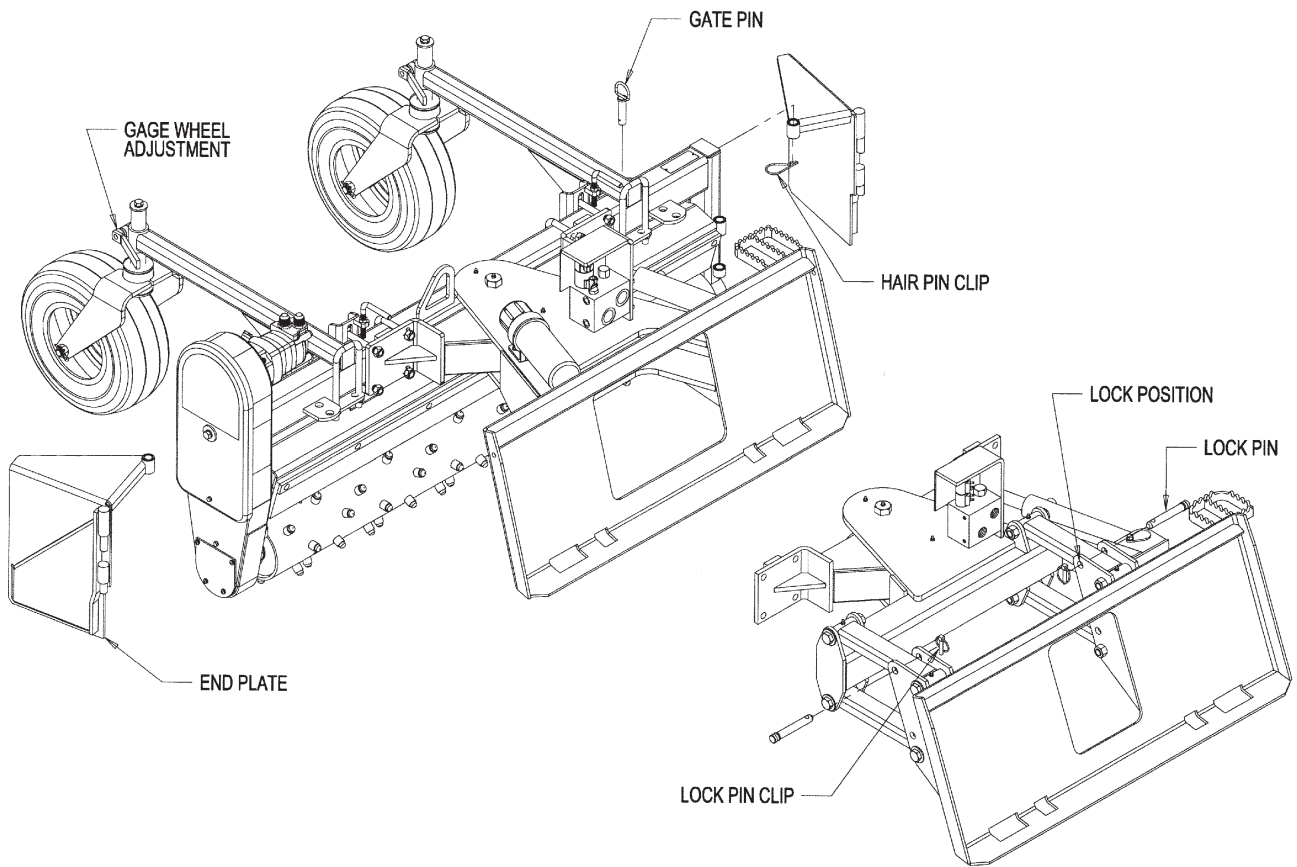

Figure 7. Adjustments
The normal gap between the roller and barrier for average conditions is about 1-1/4". This gap can be adjusted either wider or narrower by loosening the 5/8" carriage bolts (4) that holds the barrier mount and sliding it up or down. A wider opening will allow more dirt and rock to pass through. For finer raking, reduce the gap. Be careful not to let roller hit barrier. The gap should be the same all the way across. Barrier adjustment is shown in **Figure 7 (page 18)**.
By decreasing the gap between the roller and barrier, more material can be pulled along. Barrier adjustment is shown in **Figure 7 (page 18)**.
The function of the parallel arms is to allow the power rake to "float" and follow the contour of the ground. Lock-out pins are supplied to allow more aggressive action. However, the hydraulic motor may stall out if too much down-pressure is applied. See **Figure 7 (page 18)** for pin "float" and "lock-out" positions.
Install endplates on attachment side of power rake as shown in **Figure 7 (page 18)**.